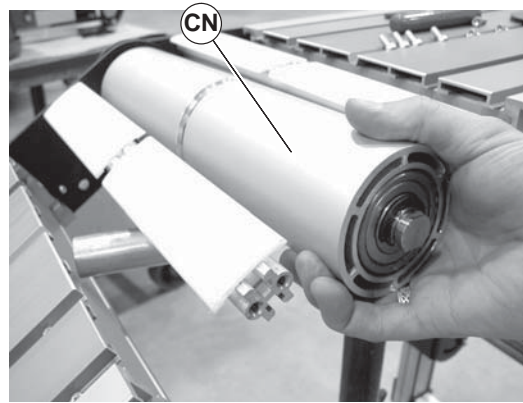

Figure 74
4. Slide the idler pulley assembly (Figure 74, item CN) out of the knuckle plate on the opposite side.